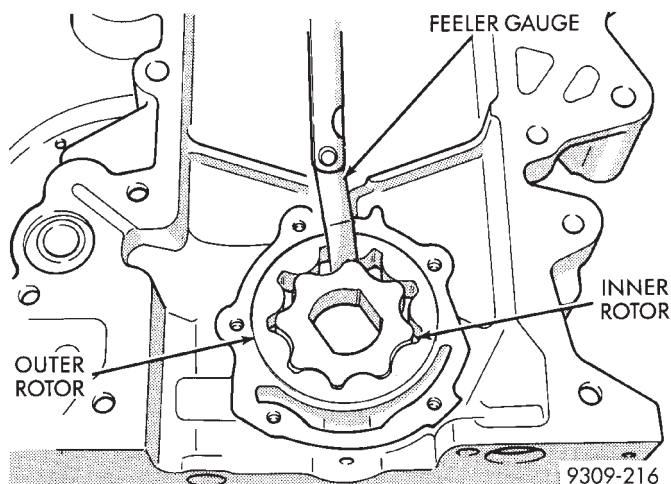

Fig. 82 Measuring Clearance Between Rotors
(8) Install inner rotor into chain case cover. If clearance between inner and outer rotors (Fig. 82) is 0.203 mm (0.008 in.) or more, replace both rotors.